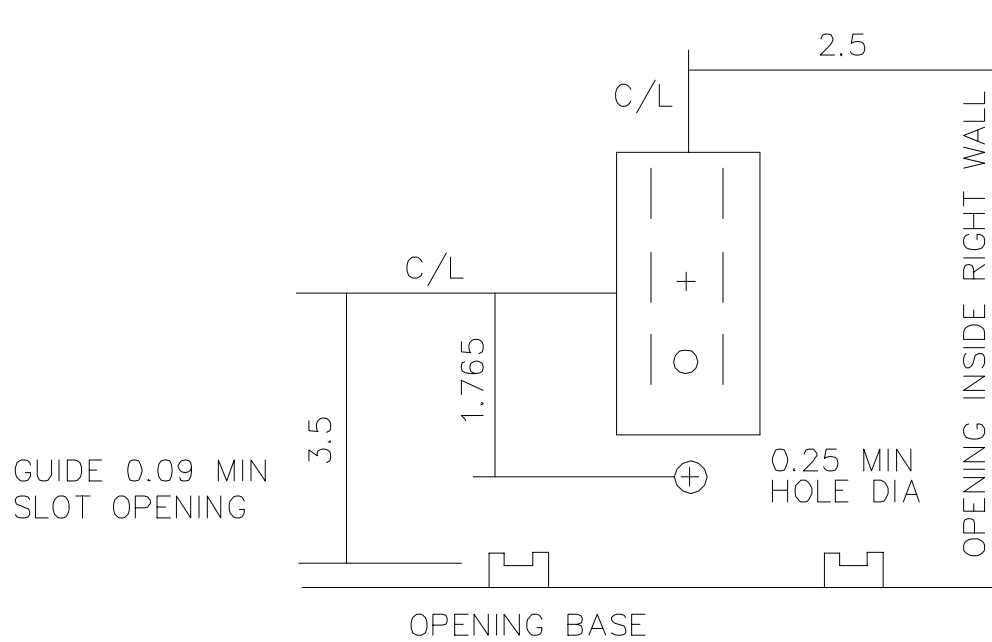

Figure 678-13: PDA #2 POWER SUPPLY CONNECTOR
- (b) The interconnection wiring of PDA #2 is illustrated in Figure 678-13.